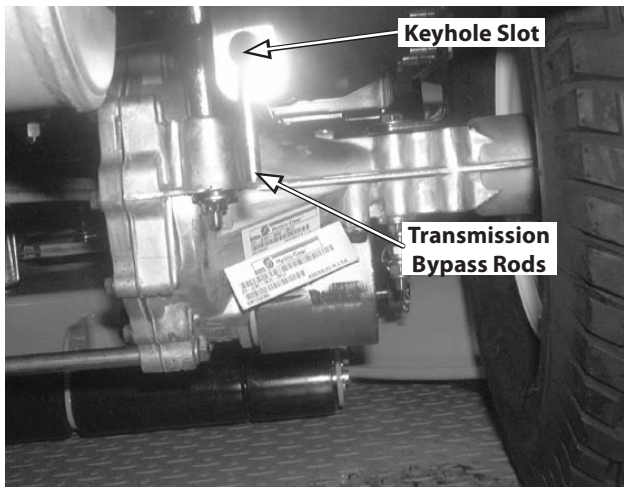

Figure 1-4
1. From just in front of the two rear tires, locate the transmission bypass rods. Refer to Figure 1-4.